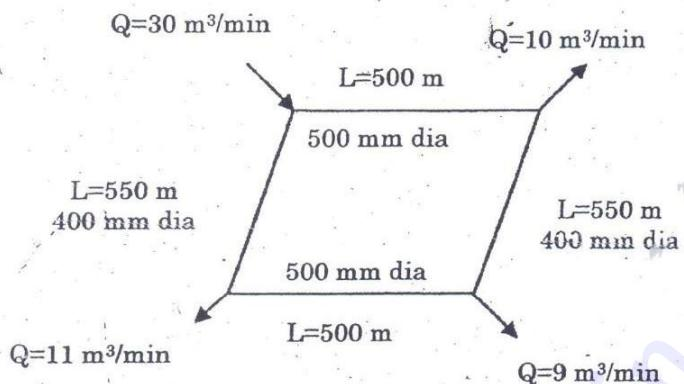

Fig.1
15. (a) Find the flow in each pipe in the Loop shown in Fig.1 Use Hardy Cross method for analyzing the Loop. Consider  $C_H$  as 110 for all pipes.